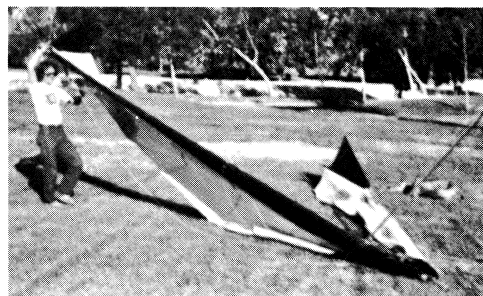

Fig. 7
(8) Carefully walk each wing out to its approximate flying position (See Fig. 7), holding the wing high enough to see that the cables are free from snags. If the wing resists while attempting to walk it out, something is snagged. Check underneath the wing, around the control bar mount box and around the corners of the control bar. Free any entanglements and proceed.